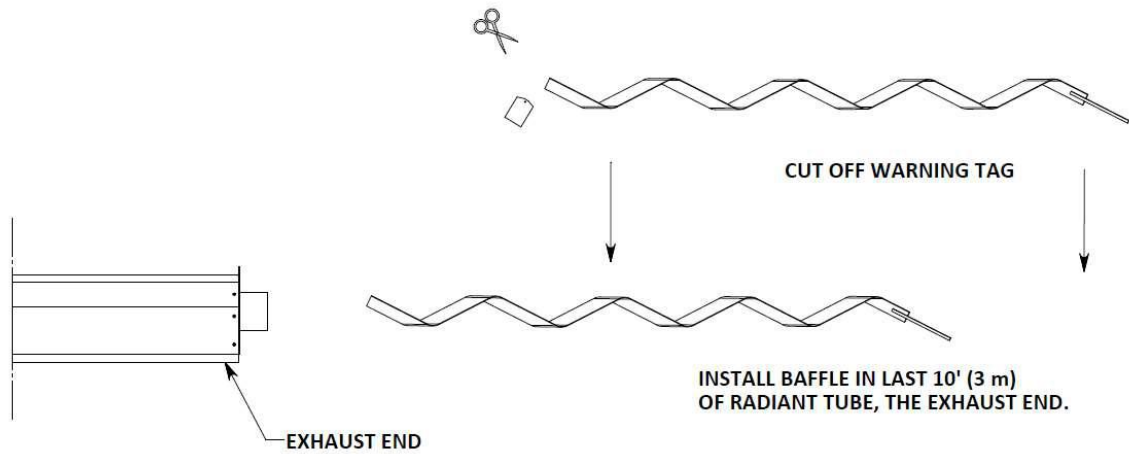

Figure 26. BAFFLE / TURBULATOR INSTALLATION
- 2) Assemble two piece baffles by inserting end with locking tabs into receiving end at 90° angle then rotating 90° until tabs are locked and baffle is in a straight line (see Figure 26 on page 30). Set these baffles aside. They must be installed in the tube in the last 10' (3 m) of the heater. (See page 30).